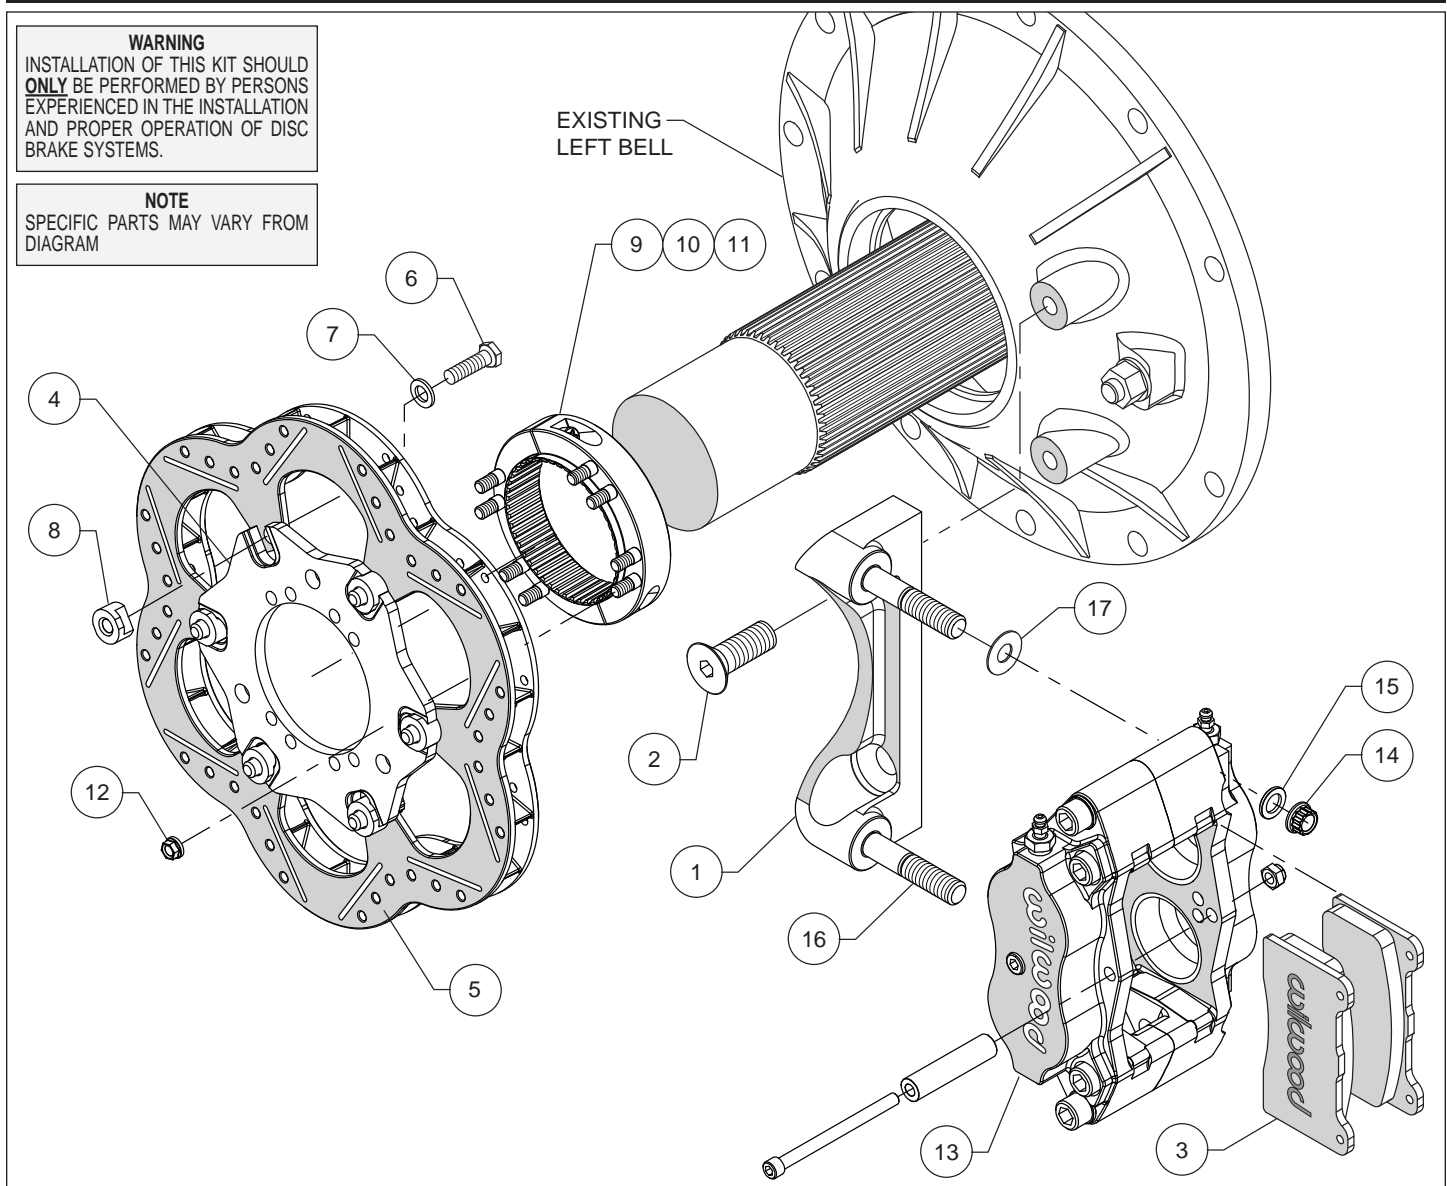

Figure 1. Typical Installation Configuration
• Orient the bracket (1) as shown in Figure 1 and install using bolts (2). Temporarily tighten bolts. **NOTE:** Bracket must fit squarely against the mounting bosses on the bell. Inspect for interference from casting irregularities, machining ridges, burrs, etc. Remove the bracket mounting bolts one at a time, apply red *Loctite*[®] 271 to the threads, and torque to 47 ft-lbs.
• With the T-notches of the rotor adapter (4) facing away from the rotor (5), attach adapter to rotor using bolts (6), washers (7) and t-nuts (8) as shown in Figure 1. Apply red *Loctite*[®] 271 to the bolt threads before installing. Finger tighten. After all t-nuts have been installed, torque bolts in an alternating sequence to 220 **in-lbs**. Please refer to Wilwood's data sheet DS-669 (available at www.wilwood.com/Pdf/DataSheets/ds669.pdf) for complete t-nut bolt kit installation instructions.
• Orient the axle clamp assembly (9, 10 and 11, pre-assembled) as shown in Figure 1 and install onto the rotor adapter (4) using nuts (12). Tighten nuts part way while still allowing clamp-to-rotor movement. The nuts will be torqued later, after aligning the rotor. **NOTE:** The axle clamp should be positioned inside of the rotor as shown in Figure 1, not offset, or outside of the rotor adapter.
- Lubricate caliper mounting studs (16) with lightweight oil. Initially place two shims (17) on each stud as shown in Figure 1. Mount the caliper (13) onto the bracket (1) using washers (15) and lock nuts (14), Figure 1. Temporarily tighten the lock nuts and view the rotor through the top opening of the caliper. The rotor should be centered in the caliper. If not, slide the rotor/adaptor assembly on the axle until the rotor is centered in the caliper. Tighten the clamp bolts (11) first, locking the clamp to the axle. Torque nuts (12) to 140 **in-lbs**.
- Remove the caliper center bridge pad retainer bolt, nut, and tube from the caliper. Insert the brake pads (3) into the caliper, with the friction material facing the rotor. Check that the top of the brake pad is flush with the outside diameter of the rotor. If not, adjust by adding or subtracting shims (17) between the caliper and the bracket. After the caliper pad height is set, torque the caliper lock nuts (14) to 30 ft-lb. Secure the brake pads in place with the center bridge pad retainer tube, bolt, and locknut. The locknut should be snug without play in the bolt or tube. Be cautious not to over tighten.